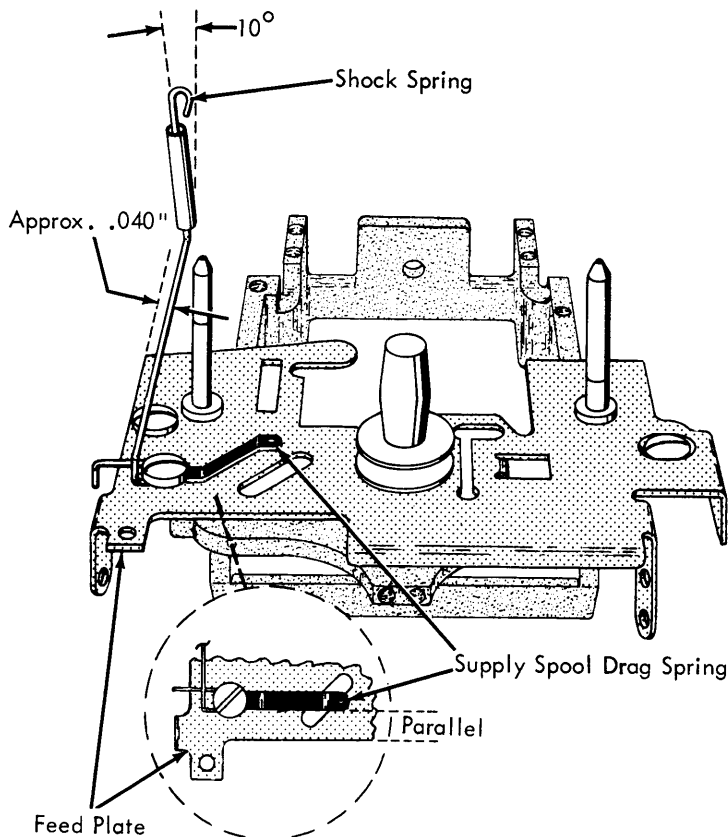

FIGURE 200. Shock and Drag Spring Adjustments
1. Supply Spool Drag Spring - Position the drag spring parallel to the front edge of the feed plate (Fig. 200). Moving the spring further away from the center of the supply spool increases the amount of drag, while bringing it closer will decrease the amount of drag.
2. **Shock Spring** - Position the shock spring so it is approximately .040" to the right and parallel to the edge of the ribbon feed plate (Fig. 200). The shock spring should be formed at the front making the roller on the spring lean approximately 10° to the left.